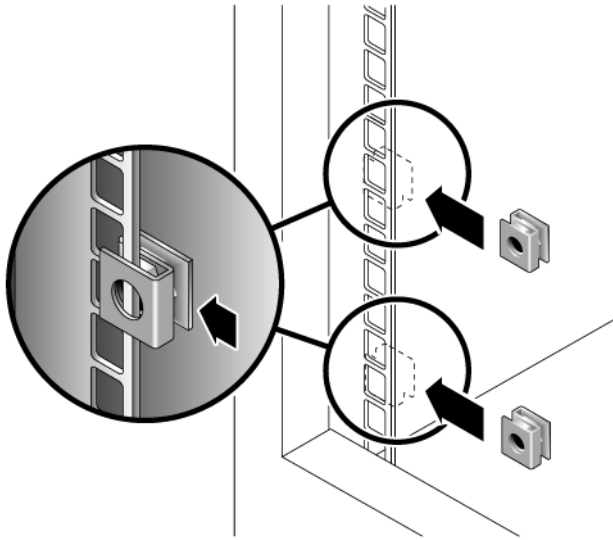

FIGURE 2-24 Inserting Cage Nuts Over Rail Mounting Holes in Cabinet Rails
1. Snap two cage nuts over the middle holes in the upper and lower mounting units of the 3RU cabinet slot in which you will mount the tray (FIGURE 2-24).